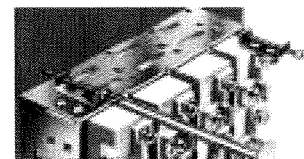

Figure 9: Multiple Combination
**Multiple combination units:** Insert the units into the panel cut-out from the front. Install the attached mounting clips into the openings on the frame, and tighten the screws as shown in *Figure 9*. After tightening, use Loctite to prevent loosening. The number of mounting clips included with each multiple unit varies with the number of windows as shown in the table below.